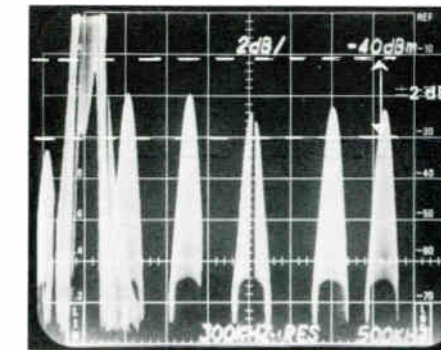

Figure 7. Sideband Response Using Multiburst (2 dB/DIV)
3. Using a 30 kHz RESOLUTION and 1 MHz or 2 MHz per division, tune in the picture and sound carriers. Slow down the SWEEP until scan loss is eliminated. The display will look similar to Figures 7 and 8.